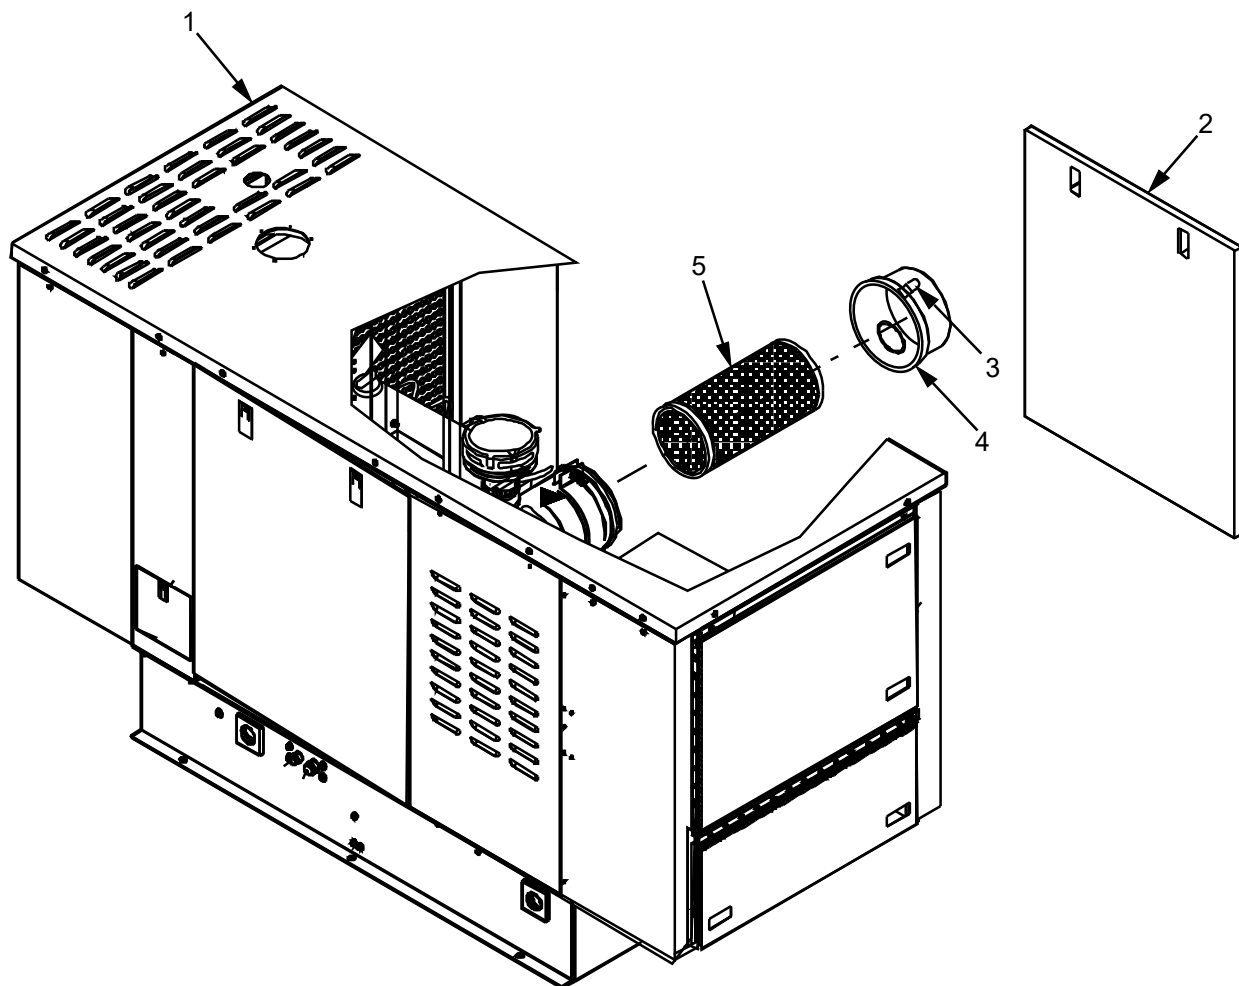

Figure 1. Air Intake Filter Removal/Replacement.
1. Insert new air intake filter (Figure 1, Item 5).
Drain on air intake filter cover (Figure 1, Item 4) should face down.
When air intake filter cover (Figure 1, Item 4) is properly locked into place, cover should not rotate.
2. Replace air intake filter cover (Figure 1, Item 4) and rotate slightly to ensure proper seating.
3. Align clasps (Figure 1, Item 3) on engine air intake filter cover (Figure 1, Item 4) and secure.
4. Install rear access panel (Figure 1, Item 2) of Genset (Figure 1, Item 1).
6. Start Genset (Figure 1, Item 1) in accordance with Genset Start Procedure (WP 0005).